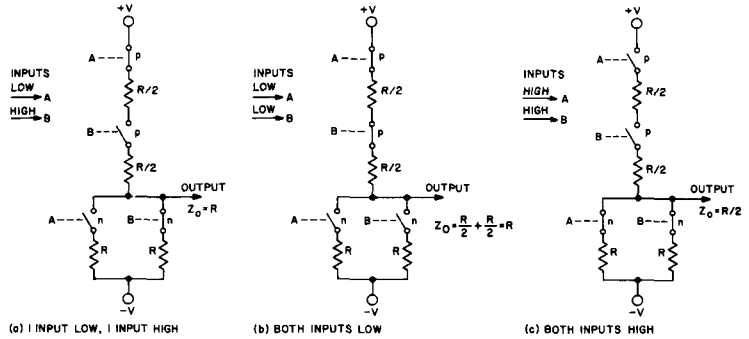

Fig. 4 — Variable output impedance of an unbuffered 2-input NOR gate. The resistors represent the on impedance of a p- or n-channel MOS transistor.
**—Unbuffered—**Fig. 4 depicts the unbuffered 2-input-gate p- and n-channel MOS switches and appropriate on-channel resistances. Note that the two stacked p-channel switches are designed for an on resistance of  $R/2$ , so that the output impedance is  $R$  when both the logic inputs are low, Fig. 4(b). In Fig. 4(a) the output impedance is  $R$  to the negative supply terminal (usually ground) for an input logic state of 1, input high. Fig. 4(c) shows the condition when the unbuffered gate has an output impedance of  $R/2$  for both logic inputs high. Hence the variable output impedance of the unbuffered gate. For a 4-input gate, this variable is  $R$  to  $R/4$ ! The maximum output resistance of RCA buffered or unbuffered gates is  $R$ . Thus, minimum  $I_{OL}$  and  $I_{OH}$  specifications for buffered and unbuffered gates are identical.